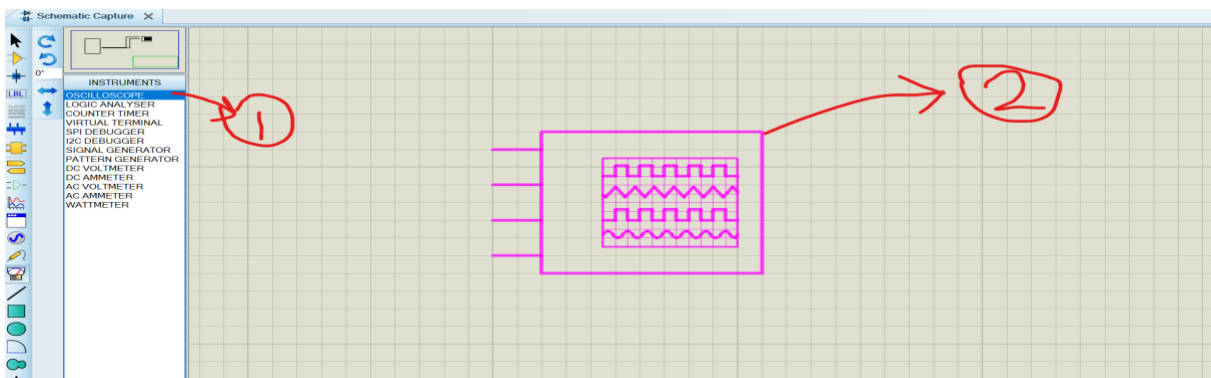
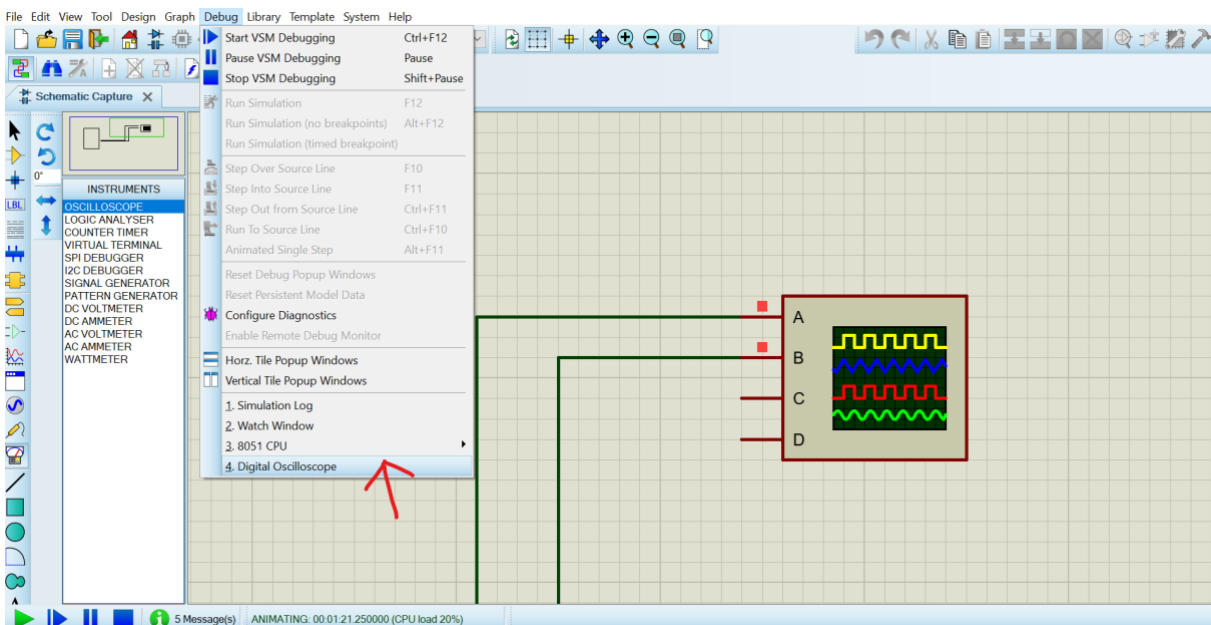
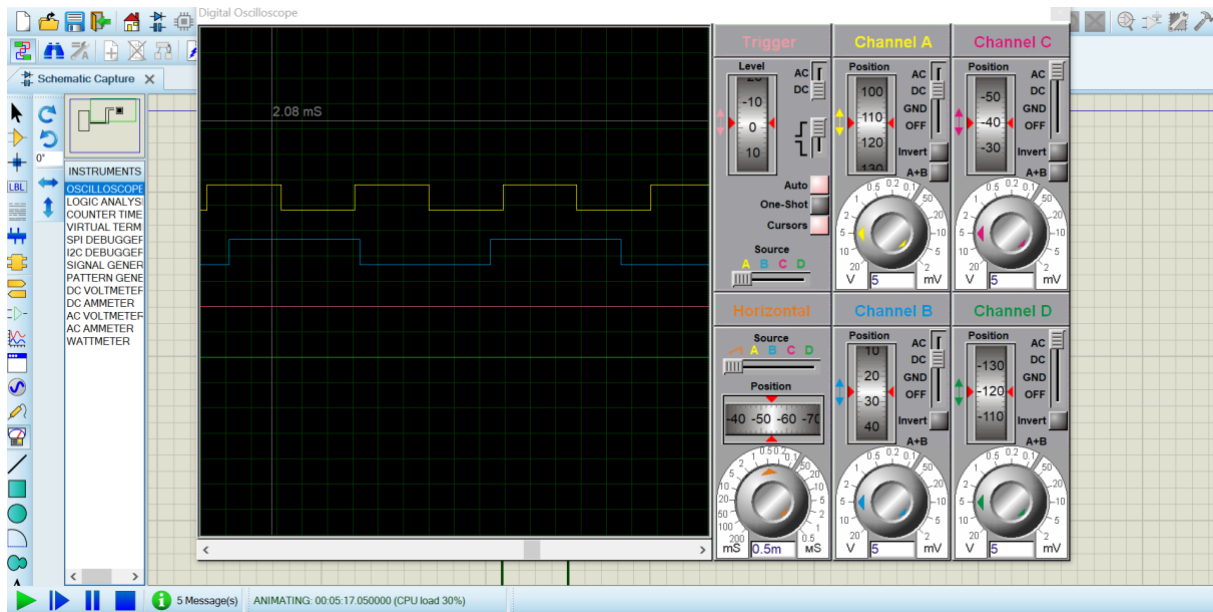

Figure 2: Instructions to place the digital oscilloscope in your project schematic.
Figure 3: Instructions on opening the Digital Oscilloscope debugging feature to visualize the waveforms produced.
Figure 4: Digital Oscilloscope debugging feature
After pressing “Oscilloscope” in (1) of Figure 2, you will click on the space in the file, which will display the purple illustration of the oscilloscope. After determining where you want to put the oscilloscope, you will click at that point and place the oscilloscope (Figure 2). After you start running the code that you put in your microcontroller, to display the waveforms, you will use the “Digital Oscilloscope” feature under “Debug” (Figure 3). When you press the Digital Oscilloscope button in Figure 3, the following window shown in Figure 4 will be displayed.
Figure 4 contains two waveforms at channels A and B. You must **use the oscilloscope in DC coupling mode for both channels**. They are set to DC in this figure, but if they are not by default, you are expected to change it. You can use the cursors in the oscilloscope to examine whether the waveforms are coherent with your expectations. To use the cursors, you should first allow them as in this setting, under the one-shot button. When you traverse your mouse through the display, you will see vertical cursors (e.g. marking 2.08 milliseconds in Figure 4). When you click on the display, the cursor will be fixed to that position. You can mark different points on the display using the cursors. You can delete some or all the cursors by right-clicking on the display. The waveforms might be moving depending on the scale used in the window. To fix them in place, you can use the stop button placed at the bottom of the page which is in line with the run button (displayed in green).